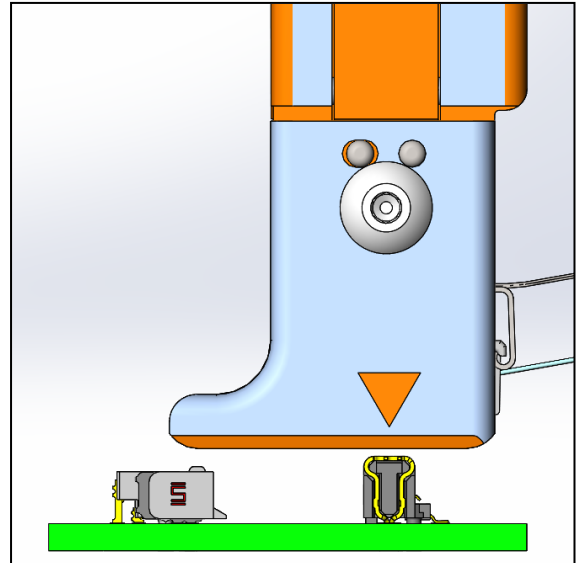

FIGURE 4
5. Align the arrow located on the sides of the tool over the middle of the UCC8 connector as shown in **Figure 4**. Then lower the tool until the bottom rests on the PCB.
6. Lift upwards to remove the Firefly from the UCC8 connector, as seen above in **Figure 4**.